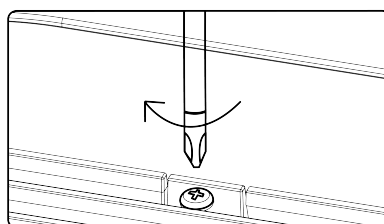

Fig.4.5.5
(4) Tighten 4 screws at each corner of panel respectively, fix the panel on the body firmly.
(5) After tightening screws, reinstall the air inlet grille.
(6) Fit the two screws in the Panel Accessory, please refer to Fig. 4.5.5.